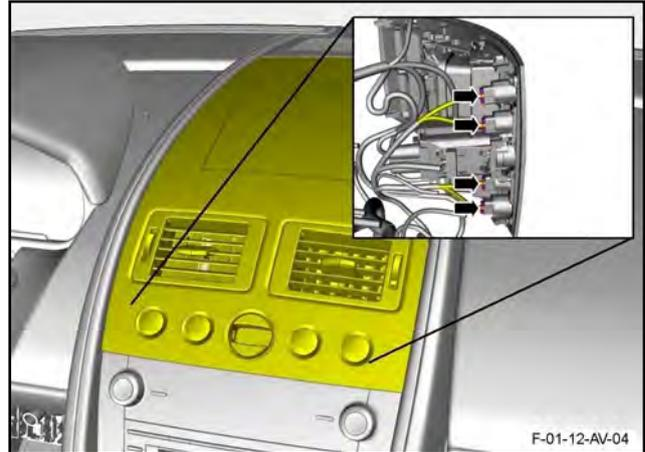

Figure 13
20. Disconnect the electrical connectors from each of the four transmission control switches (refer to Figure 13).